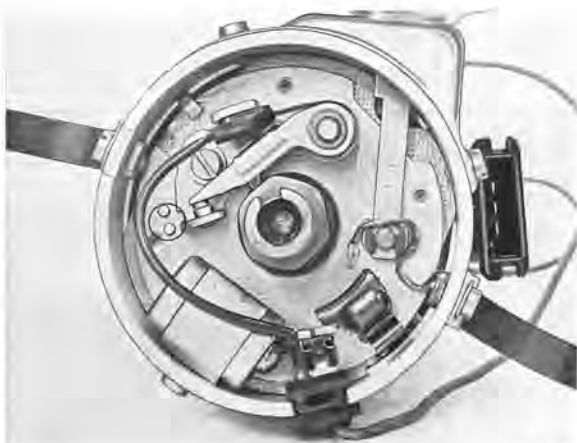

Fig. 3-68. Recess for adjusting ignition breaker contacts
2. Adjustment is made by slightly slackening the screw for the ignition breaker contacts and then inserting a screwdriver in the recesses, Fig. 3-68, and turning until the dwell angle is correct. Then tighten the screw for the ignition breaker contacts.